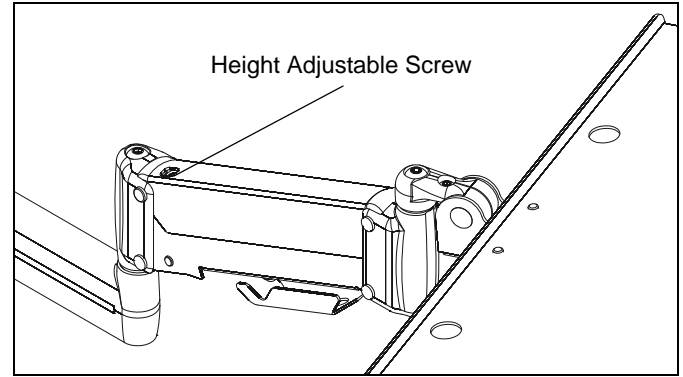

Figure 10
- Using 5/32" hex key (M), slightly loosen or tighten the adjustment screw as necessary. (See Figure 10)